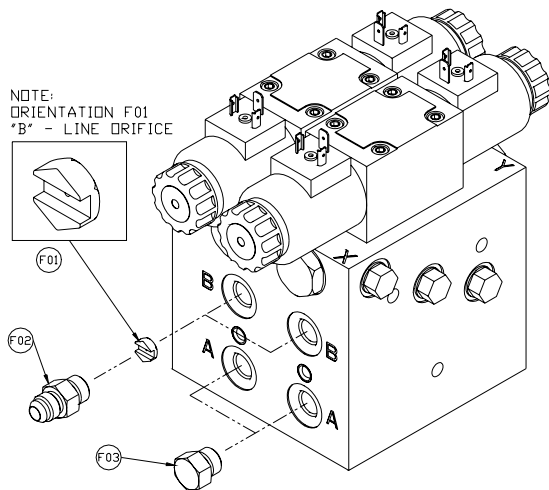

Figure 21 – Single Acting Valve Block
- 1) Install the orifices (F01) into the "B" ports with the notch facing outward as shown in Figure 21.